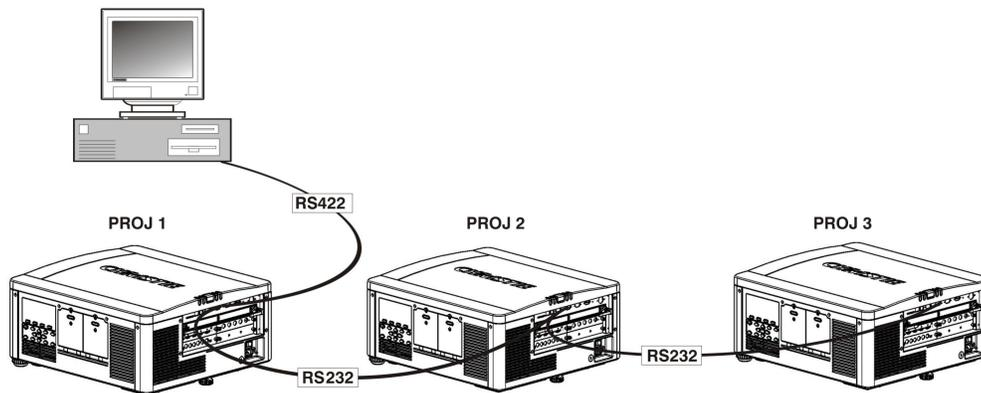

FIGURE 2-20 MIXED NETWORK
2. Chain the projectors together by connecting an **RS-232 OUT** (Null Cable) of the first projector (already connected to the computer/controller through the **RS-422** port straight thru to an **RS-232 IN** on the next projector in the chains). Continue connecting projectors in this manner until you’ve reached the last projector in the chain, so that only the last projector has one unused port **RS-232 OUT**, see Figure 2-20 Mixed Network.